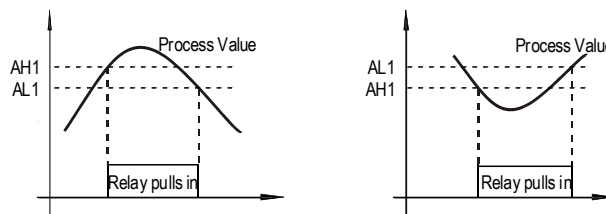

Figure 5. Reply (J1) action when the alarm is set as high alarm (left) and low alarm (right).
2) Set AH1 > AL1, relay is for high limit alarm. See Figure 5 (left).
3) Set AH1 < AL1, relay is for low limit alarm. See Figure 5 (right).